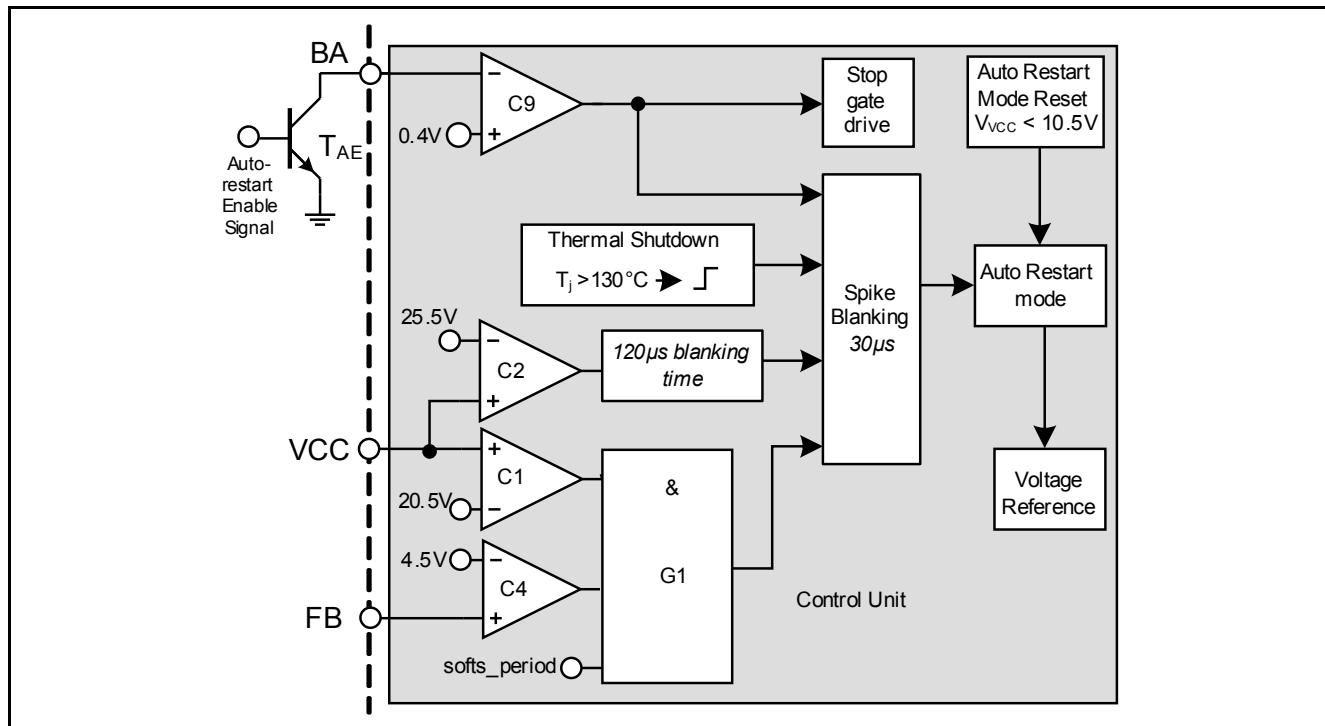

Figure 28 Vcc OVP, OTP, External Protection Enable
Vcc OVP (1) condition is when V_{VCC} voltage is > 20.5 V, V_{FB} voltage is > 4.5 V and during the soft start period, the IC enters into odd skip auto restart mode. This condition likely happens during start-up on an open loop fault (Figure 28).
Vcc OVP (2) condition is when V_{VCC} voltage is > 25.5 V, the IC enters into odd skip auto restart mode (Figure 28).
The overtemperature protection OTP is sensed inside the controller IC. The Thermal Shutdown block keeps on monitoring the junction temperature of the controller. After detecting a junction temperature higher than 130 °C, the IC will enter into the nonswitch auto restart mode. The IC is also implemented with a 50 °C hysteresis. This means the IC can only be recovered when the controller junction temperature is dropped 50 °C lower than the overtemperature trigger point (Figure 28).
external transistor, T_{AE} at the BA pin. When this function is enabled, it will enter into the nonswitch auto restart mode. The gate drive is stopped and there is no switching pulse before it is recovered (Figure 28).